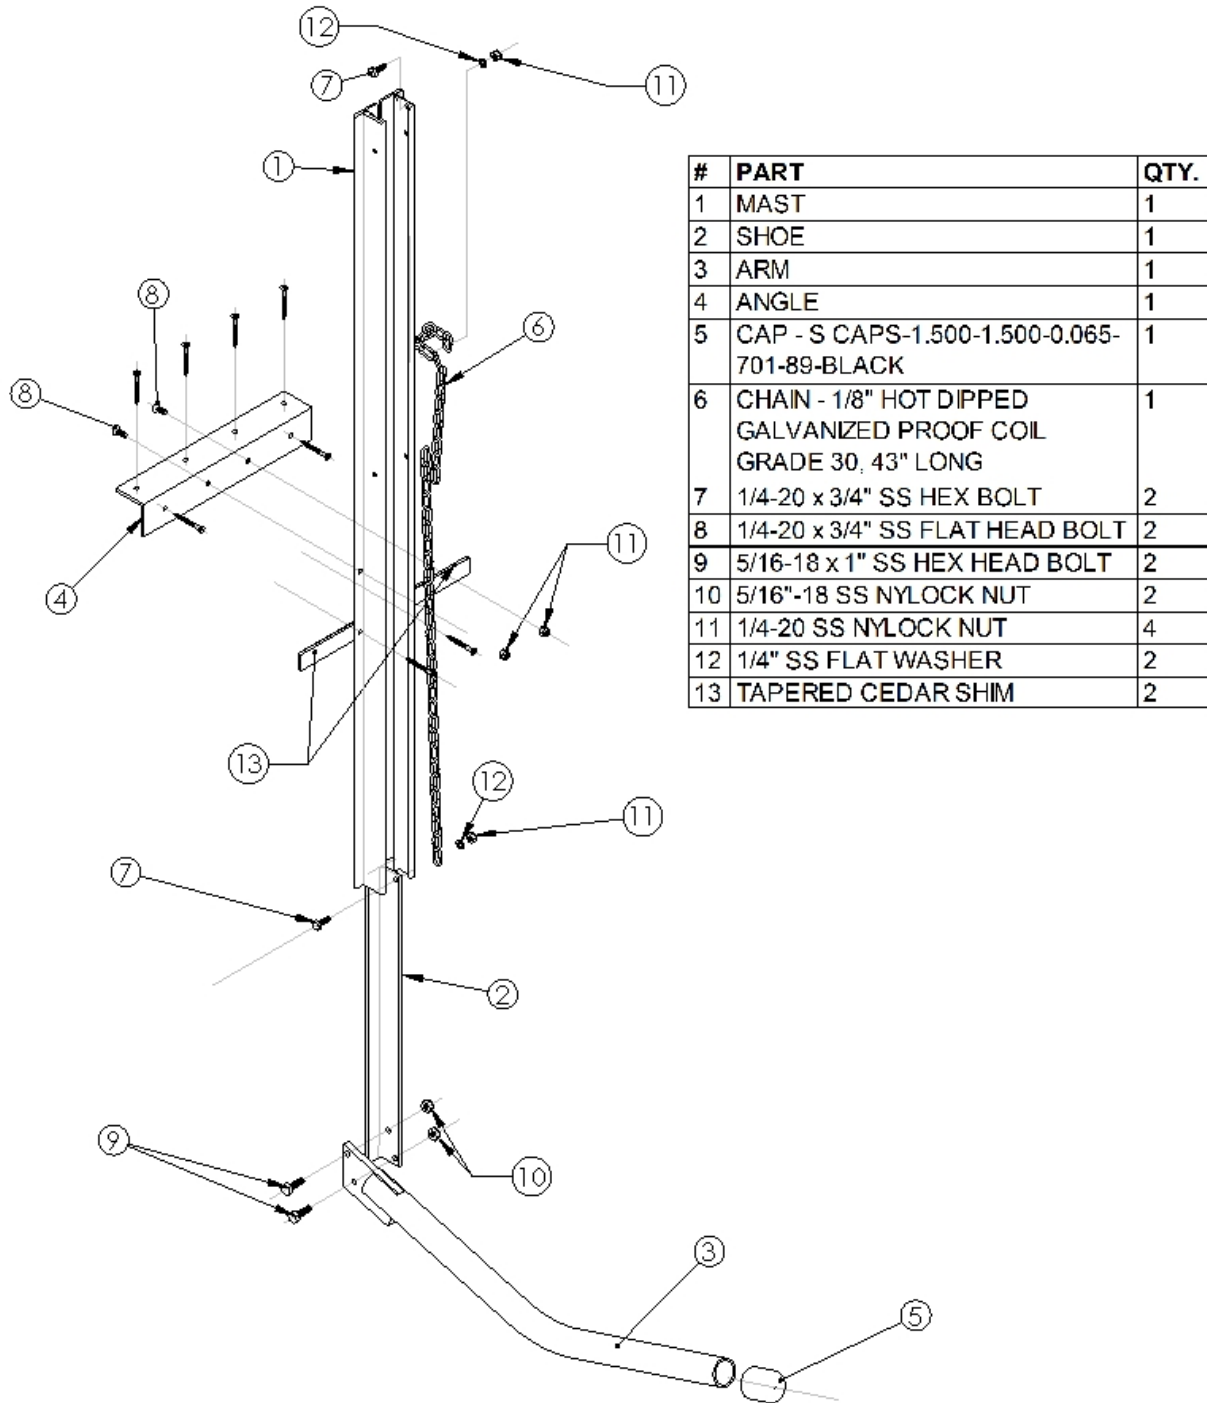

FIGURE 1
- **Parts List (Refer to Figure 1):**
- One of each of the following: mast (1), shoe (2), arm (3), angle (4), cap (5), and chain (6)
- Two of each of the following: 1/4"-20 x 3/4" SS hex head bolt (7), 1/4"-20 x 3/4" SS flat head bolt (8), 5/16"-18 x 1" SS hex head bolt (9), 5/16"-18 SS Nylock nut (10), 1/4" SS flat washer (12) and tapered cedar shims (13)
- Four of the following: 1/4"-20 SS Nylock nut (11)
- **Completing the assembly (Refer to Figure 1):**
- Using 2 flat head bolts (8) and 2 Nylock nuts (11) fasten the angle (4) onto the mast (1) through the upper set of holes in the mast flanges.
- Install the end cap (5) onto the end of the bent arm (3).
- Using 2 hex head bolts (9) and 2 Nylock nuts (10) fasten the bent arm (3) onto the bottom of the shoe (2). Note that the bolts pass through the arm plate first and then the shoe.
- Using hex head bolts (7) washers (12) and Nylock nuts (11) fasten one end of the chain (6) to the top of the mast and the other end of the chain to top of the shoe.
- Mounting details will vary depending on dock construction. The following is one example for mounting on a straight sided wooden dock (Refer to Figures 1 & 2):